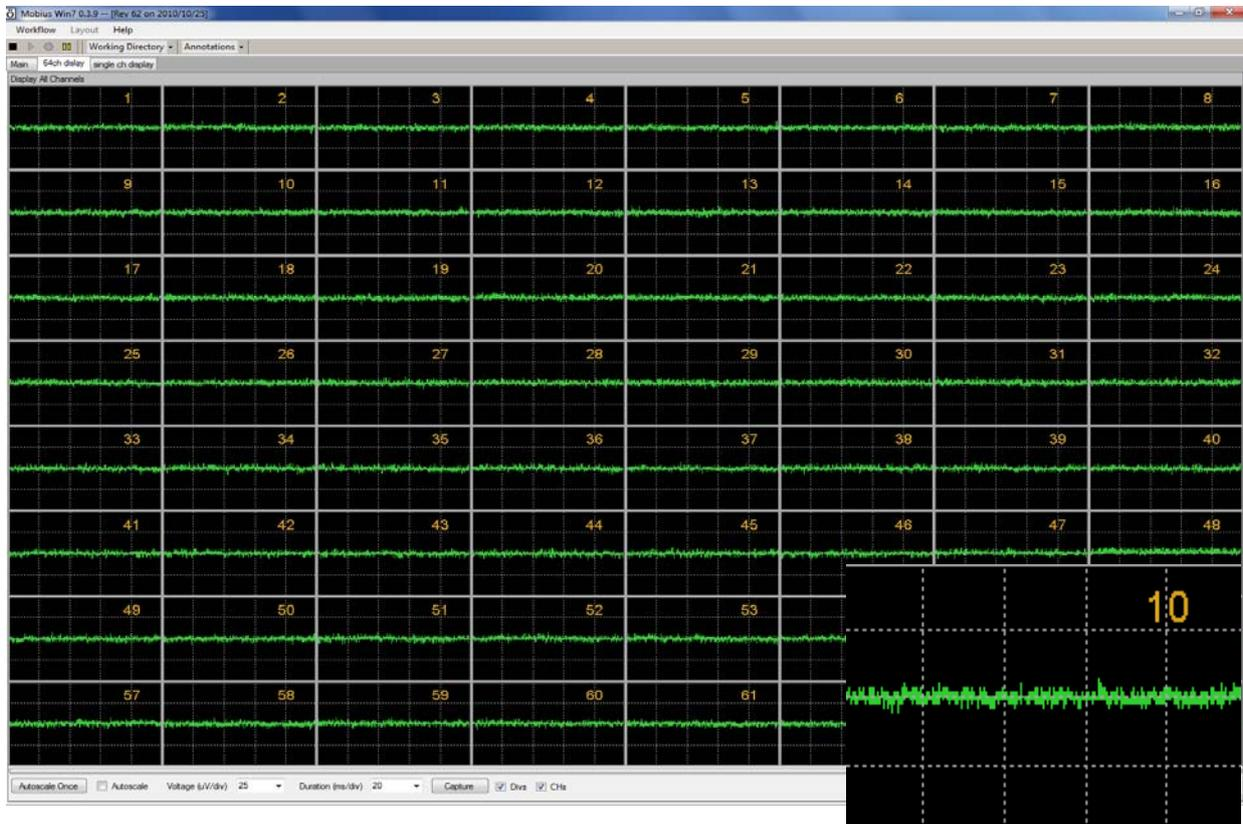

Figure 2-18. Appropriate noise level for the MED64-Quad II System (25 $\mu\text{V}/20\text{ msec}$).
9. The baseline noise level should be around a few micro volts at the scale of 25 $\mu\text{V}/20\text{ ms}$ as seen in Figure 2-18. If a larger noise level is present, please minimize the noise according to the section on “Troubleshooting”.
6. Run the MED64-Quad II System and check the noise. The same noise level (seen in the Figure 2-18) should be achieved.